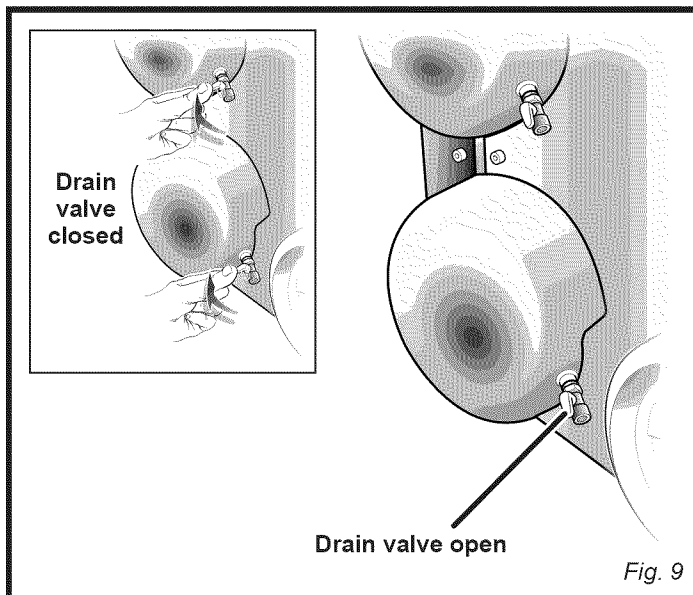

Fig. 9
See figure 9.
- Open the drain valve by rotating it ¼ turn counterclockwise (fig. 9).
- Close the drain valve by rotating it ¼ turn clockwise (fig. 9).